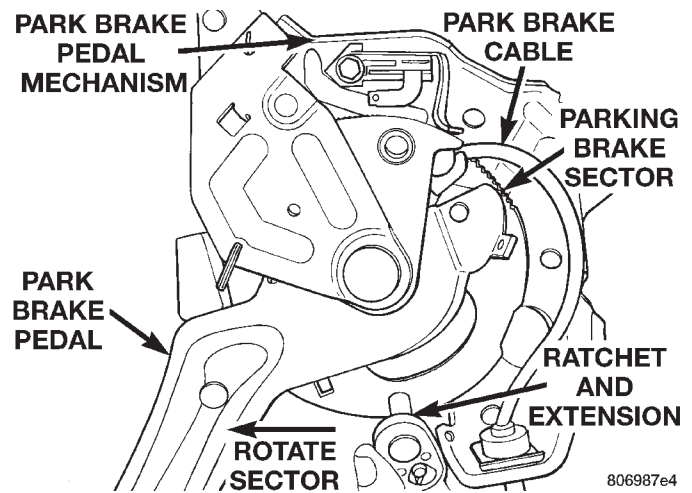

Fig. 39 Winding Park Brake Sector Spring
(1) Insert a 1/4 in. drive ratchet and extension into the 1/4 in. square hole located in the sector of park brake pedal mechanism (Fig. 39).
(2) Pull on ratchet and extension, rotating sector toward rear of vehicle until the hole in the sector is aligned with the two holes in the bracket of the park brake pedal assembly (Fig. 39).